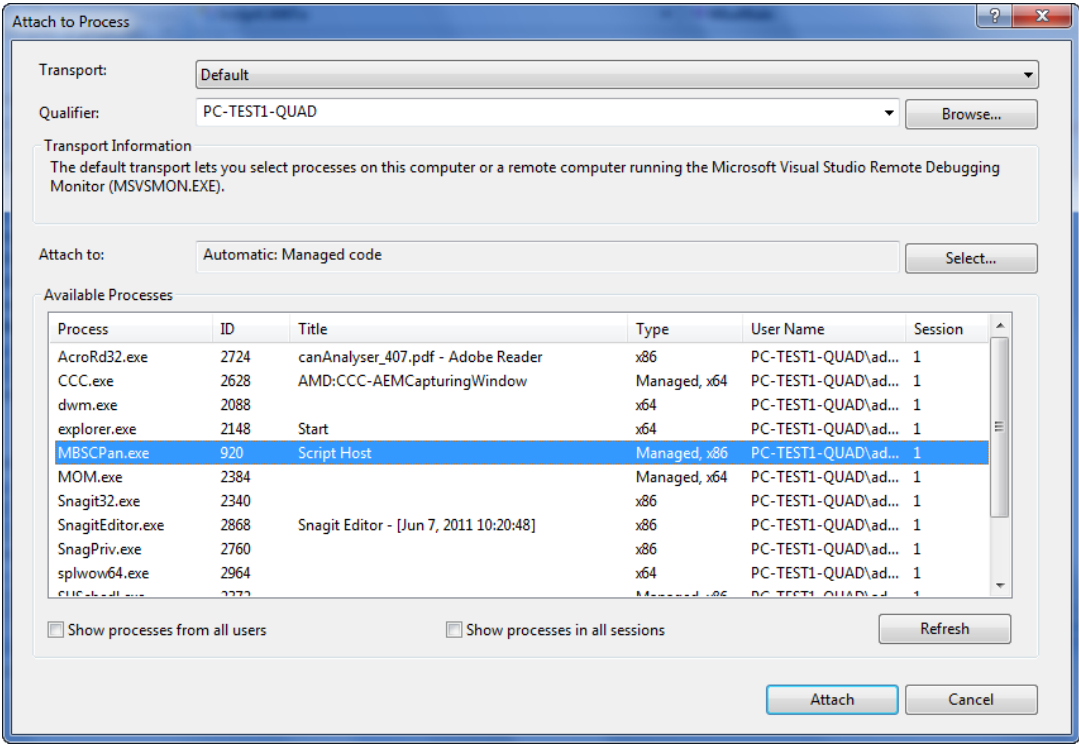

Figure 5.70: Attaching debugger to the canAnalyser3
- In the displayed **Attach to Process** dialog (Fig. 5.70) select the canAnalyser3 process (MbsCPan.exe), and simply press the **Attach** button.